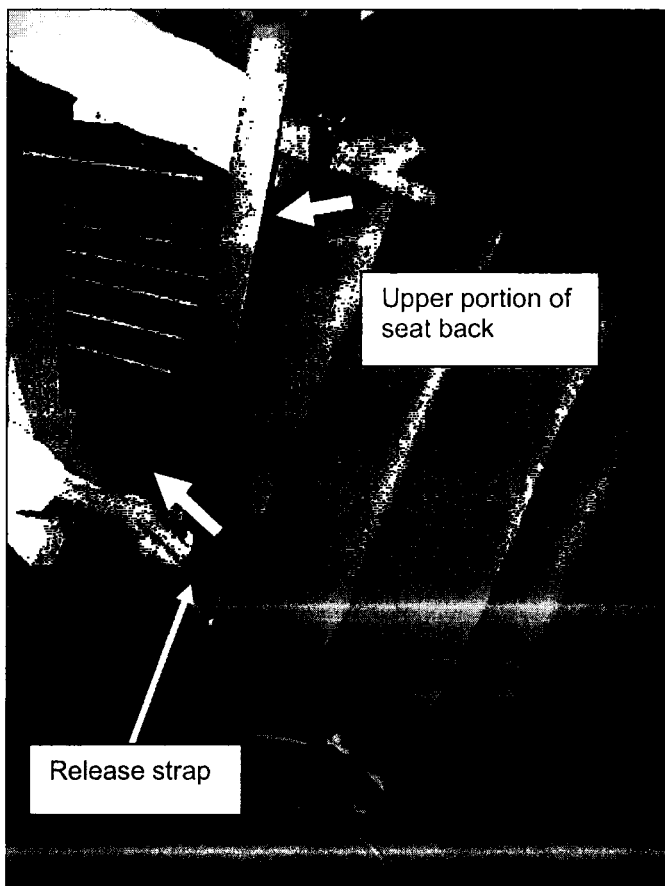

Figure 2
**NOTE:** The following procedure shows you how to install a seat belt protector on the second-row, passenger (RH) seat belt. Use this same procedure for installing a protector on the second-row, driver's (LH) seat belt.
1. Fold the upper portion of the seat forward by pulling on the release strap (see Figure 2).